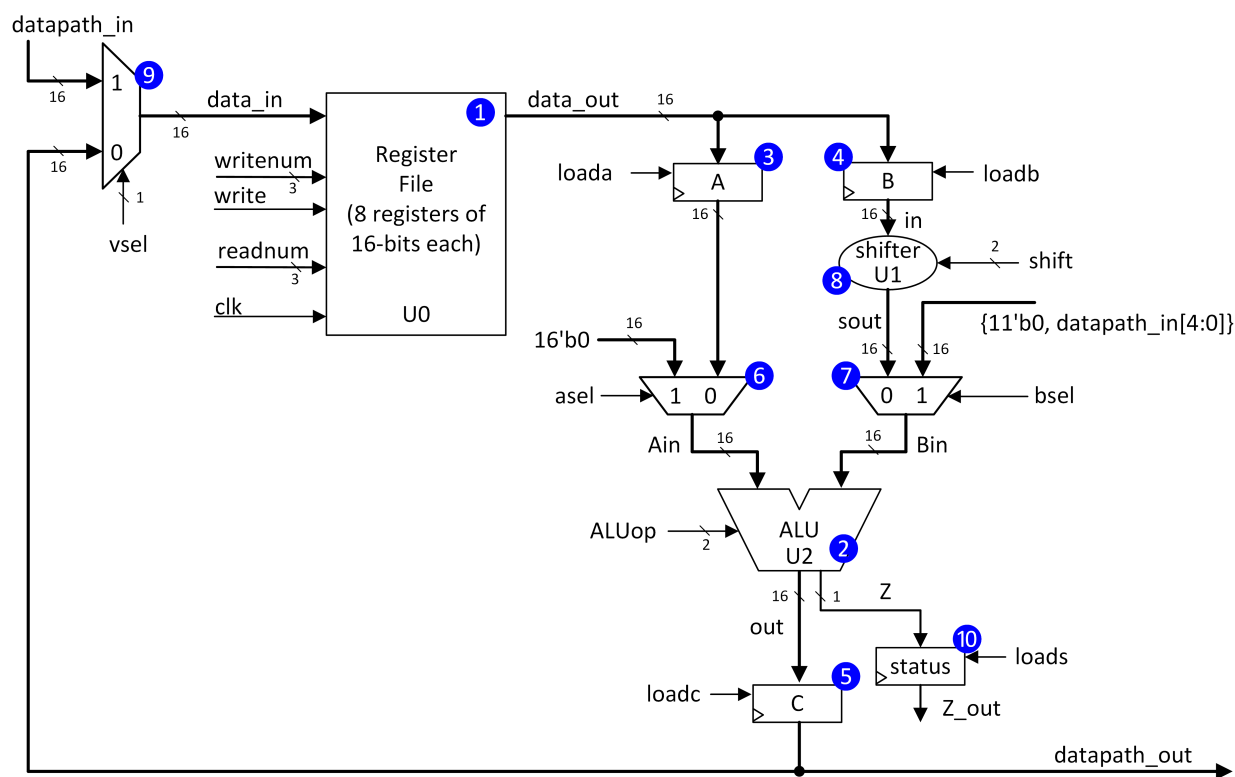
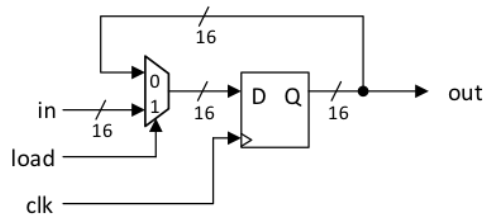
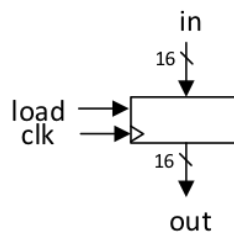

Figure 1: “Simple RISC Machine” Datapath
Figure 2: Register with Load Enable Circuit
Figure 3: Register with Load Enable Symbol (Note: this symbol is used in both Figure 1 and 4)
To execute the instructions above along with some others described later, in Lab 5, you implement the computer *datapath* shown in Figure 1. This section explains the different elements in Figure 1. While reading this section try to focus on understanding what each individual block does. In Section 2 we will see an example showing how the blocks work together.
To compute with the variables g , h , i , j , $t1$, and $t2$, our computer needs a way to “remember” their values. To remember their values, the Simple RISC Machine employs the hardware structure known as a *register file* ①, shown in Figure 1.
sometimes referred to as a *register with load enable*. A register with load enable can be implemented with the circuit shown in Figure 2.
In Figure 2, when load is 0, out is passed through the top input of the multiplexer into the D input of the set of 16 flip-flops, which together form a 16-bit register. Thus, when load is 0 and there is a rising edge of the clock, the value in the 16-bit register does *not* change. Conversely, when load is 1 the value of out is updated to the value on in on the rising edge of the clock. In Figure 1 a 16-bit register with load enable is represented using the symbol shown in Figure 3.